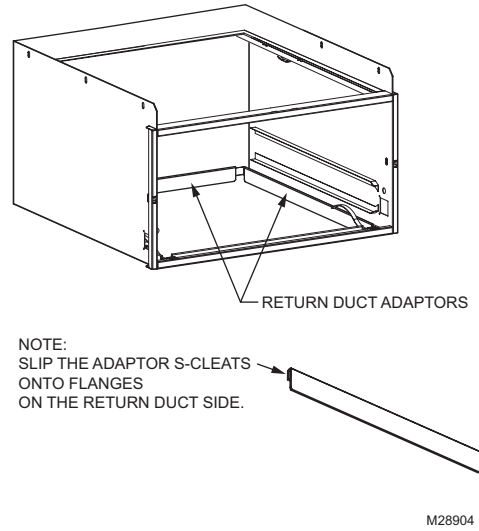

Fig. 6. Use of Return Duct Adapters for FH8000A.
- e. Use return duct adapters provided to attach return ductwork (see Fig. 6).